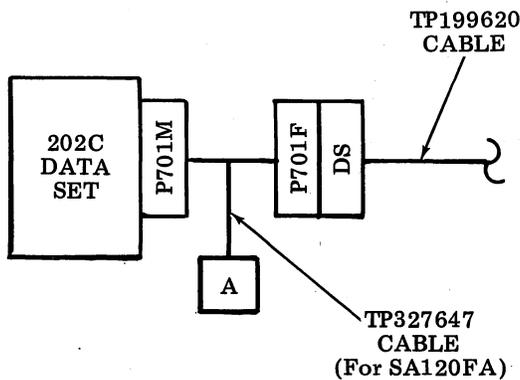

Figure 8 - Installation of SA120 Cable at Sender
3.21 To reinstall the SA120, secure connector DS of TP199620 cable to connector P701F of TP327647 cable (Figure 8) and secure connector P701M to data set.